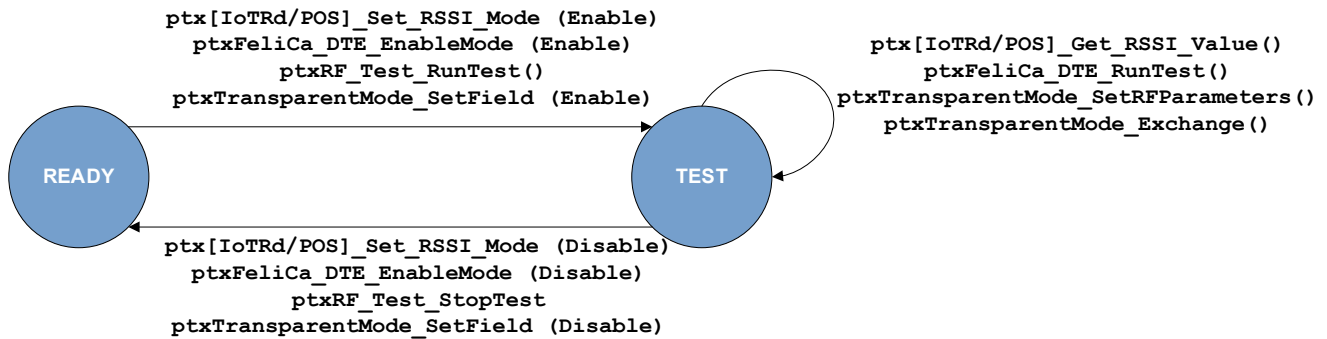

Figure 1. State Transitions form READY to TEST
- Figure 1. State Transitions form READY to TEST 2
Transparent Mode can only be activated in the READY state of the system. It switches to TEST state after calling `ptxTransparentMode_SetField` as shown in Figure 1. Additional information is located in the SDK integration notes of POS/IoT SDKs. For more information on the `ptxTransparentMode_SetField`, see section 2.3.